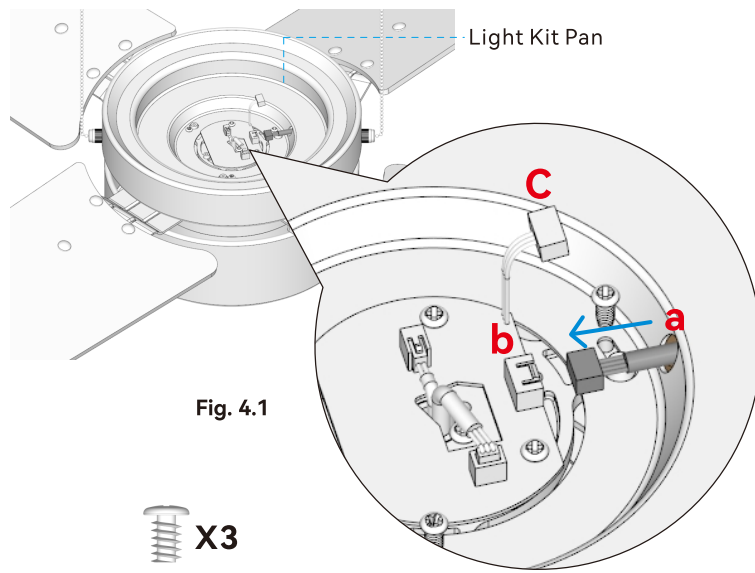

Fig. 4.1
4.1 Connect the male plug **(a)** from the light kit pan to the female terminal block **(b)** on the PCB board as shown in Fig. 4.1.